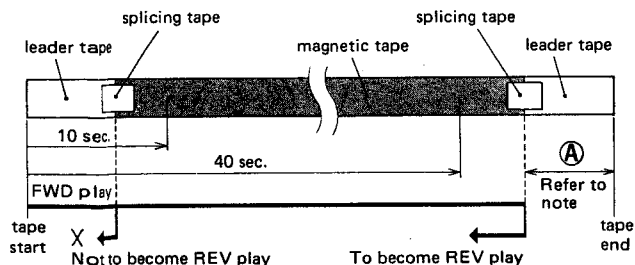

Fig. 4-10 A term of quick-reverse
**Note:** It is not specially prescribed that quick-reverse operation in the case of the tape passing in front of the erase head 10 seconds after the start of forward play is within the range indicated with A in Fig. 4-10. In this case, either the quick-reverse operation or the tape end stop detection may be permitted to permit the deck to be set to the reverse play mode.